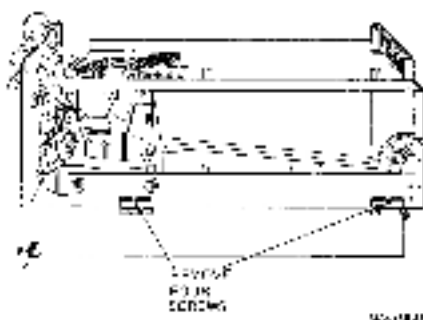

Figure 4-17 Separating the Floppy Disk Component and Power Supply Assemblies
4. Remove four screws (two on each side of drive) securing component assembly to power supply frame (Figure 4-17).
5. Replace four screws (two on each side of drive) securing mechanics assembly to power supply frame (Figure 4-17).